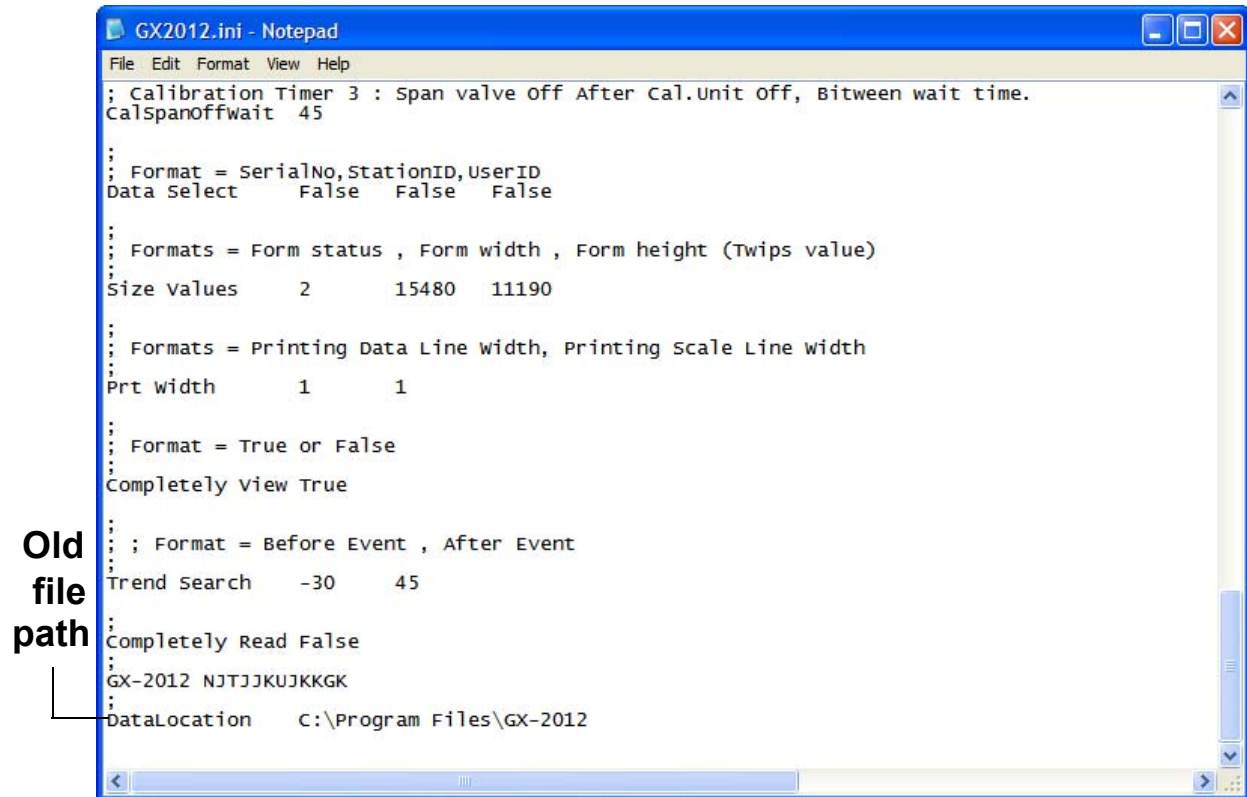
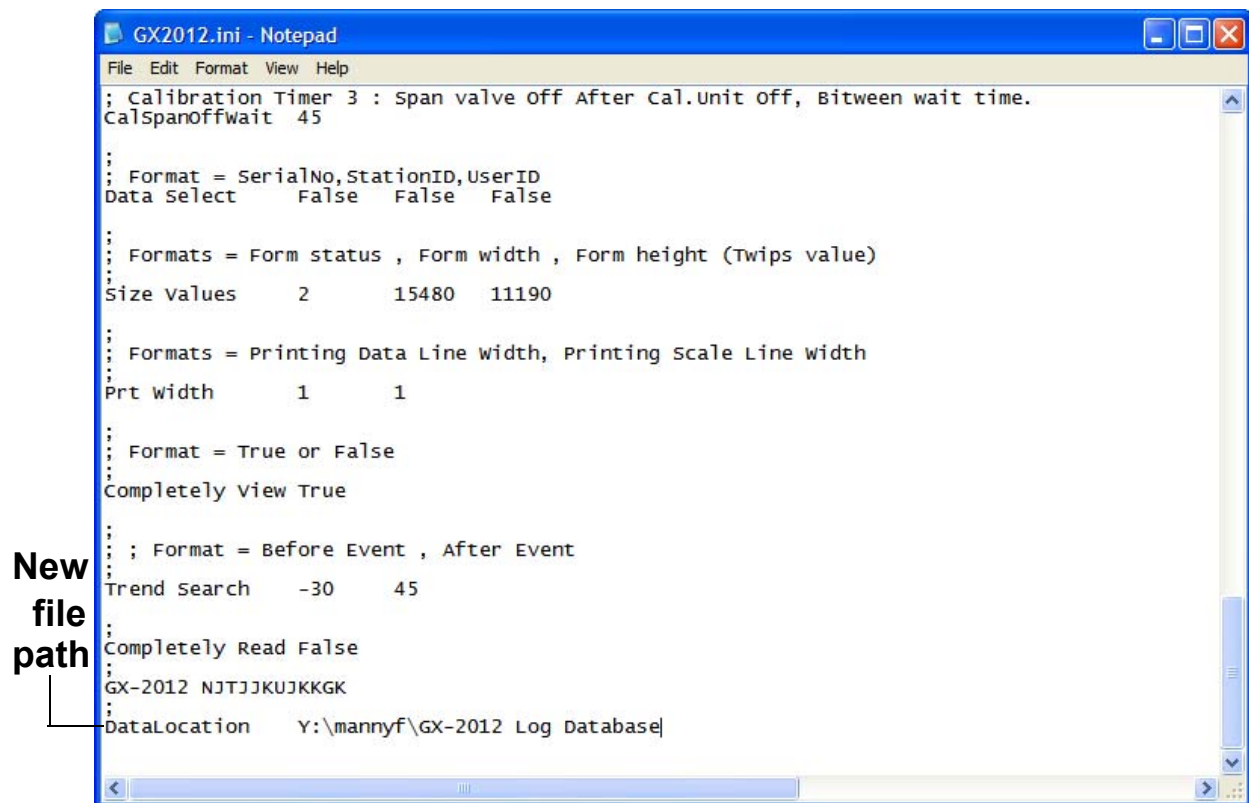

Figure 10: GX2012.ini File with Original Path
Figure 11: GX2012.ini File with New Path
5. Scroll down to the very last line. This line is the Data Location path. An example of the path created by the program is shown in Figure 10. Replace the current path with the desired path (see Figure 11).